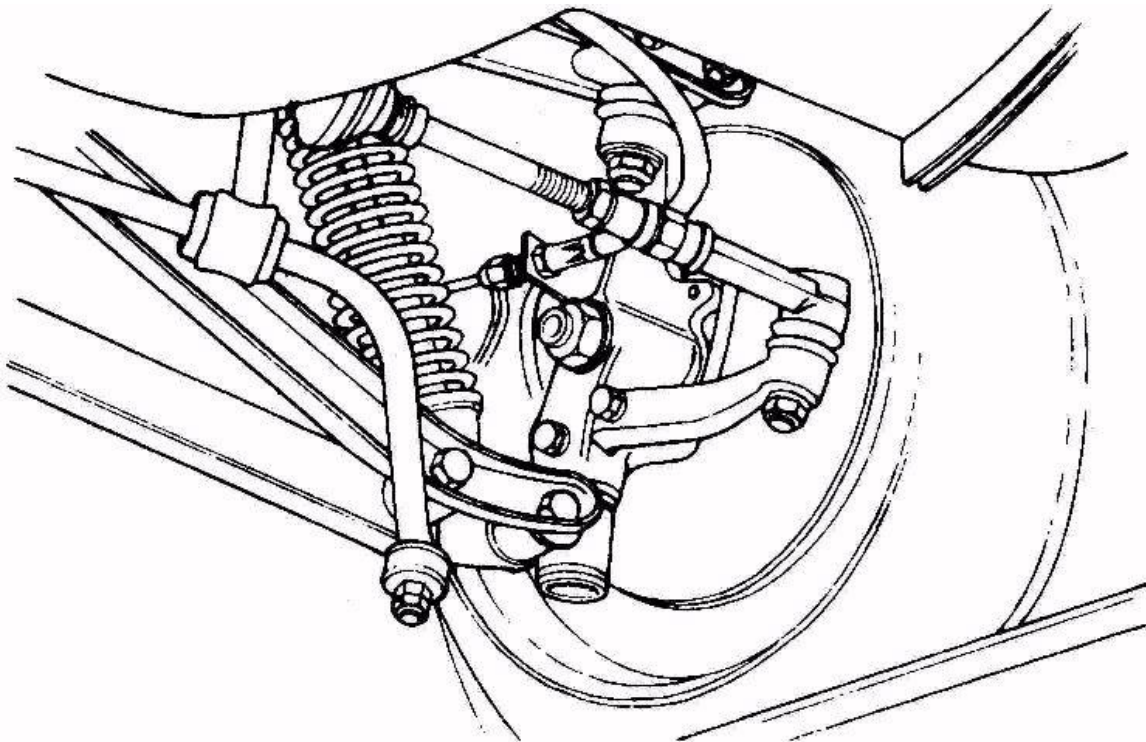

Fig. 16 - Steering Arm Attachments.
2. Extract the lower two bolts securing the brake disc dust cover, the brake caliper mounting plate and the steering arm to the vertical link (see Fig.16).